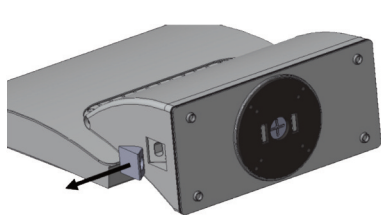

Fig. 4
5. Use a flat head screwdriver to remove the two rubber plugs from the sides of the driver box (**Figure 4**).